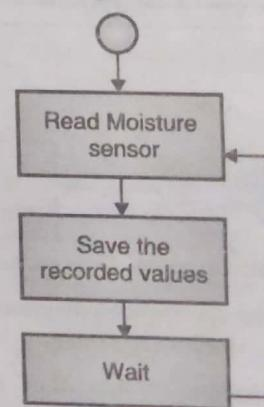

Fig. 6.11.1 : Process specification diagram for smart irrigation system
- The process specification diagram for the irrigation system is shown in Fig. 6.11.1.